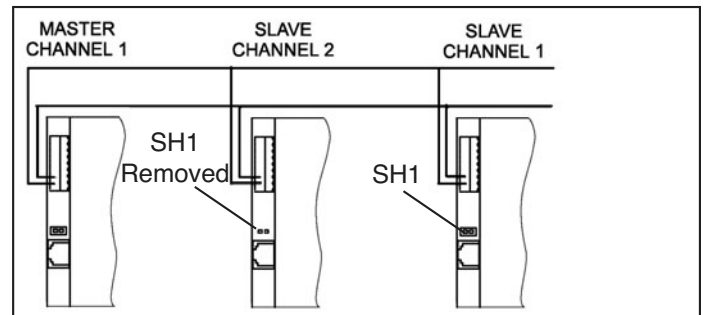

FIGURE 2-7
4. Use synchronization wire (18 to 24-gauge, 2 conductor) between units; connect as shown. (See Figure 2-7) (Connector block is a plug in and may be removed to facilitate connection of unit)
5. With the exception of the end units, the SH1 jumper, located on the controller board assembly must be removed. (See Figure 2-7)
9. Set the remaining units to CHANNEL 2 and 1 as shown in Figure 2-7.